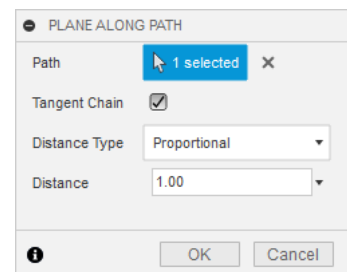

Fig. 7
Step 3. In the Plane Along Path panel set, **Fig. 7**